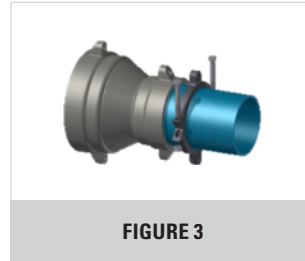

FIGURE 3
3. Assemble the spigot restrainer leaving sufficient threads on each end of the connecting rod to fully install washer (where provided) and fully engage nut per Figure 3. Tighten the restrainer clamp assembly bolts on each side evenly to the recommended torque maintaining even gaps between the clamp pads.
3. Assemble restrainer per Figure 3, leaving sufficient threads on the end of the T-head bolt to fully engage nut.
3. Assemble restrainer per Figure 3, leaving sufficient threads on the end of the connecting rod to fully install washer and fully engage hex nut. Tighten the restrainer clamp assembly bolts on each side evenly to the recommended torque maintaining even gaps between the clamp pads (150–200 ft-lb for 14"–16", 175–225 ft-lb for 18", 200–250 ft-lb for 20", 225–275 ft-lb for 24", 250–300 ft-lb for 30" and 250–300 ft-lb for 36").
- Assemble restrainer per Figure 3, leaving sufficient threads on the end of the T-head bolt to fully engage nut.